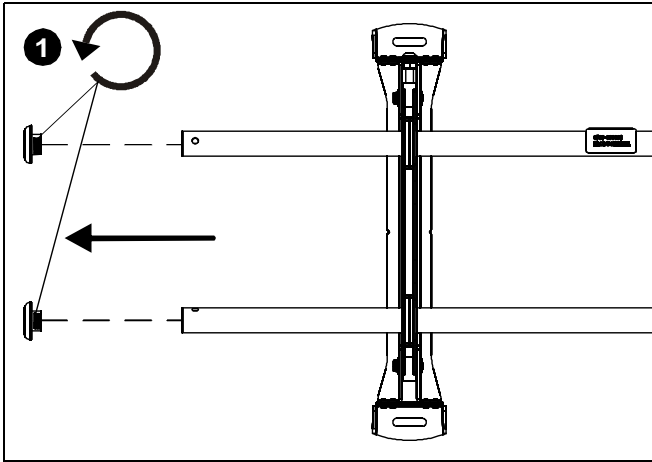

Figure 1
1. Remove end caps from wall mount rails. (See Figure 1)